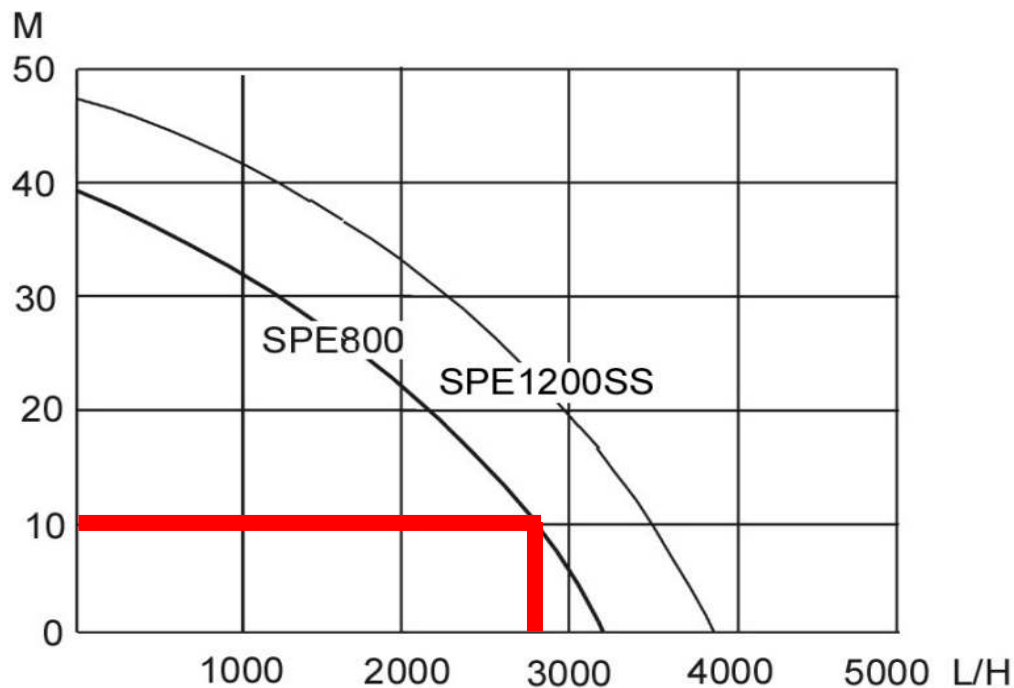

Figure 10: SPE800 pump curve with lines drawn at 10m head (approximately 1.0 bar)
- Pressure relief valve with a pressure setpoint equal to the desired system pressure. This should be less than the collector system safety relief valve setpoint. The pressure relief valve discharge flow should be greater than the fill/purge pump flow at the pressure relief valve setpoint. For example, if the pressure relief valve setpoint is 1 bar, for an SPE800 pump, the flow is 2800 l/h at this pressure (see Figure 10). The relief valve should therefore discharge at least 2800 l/h at 10% overpressure. The recommended relief valve is a NABIC 500L or 542L.